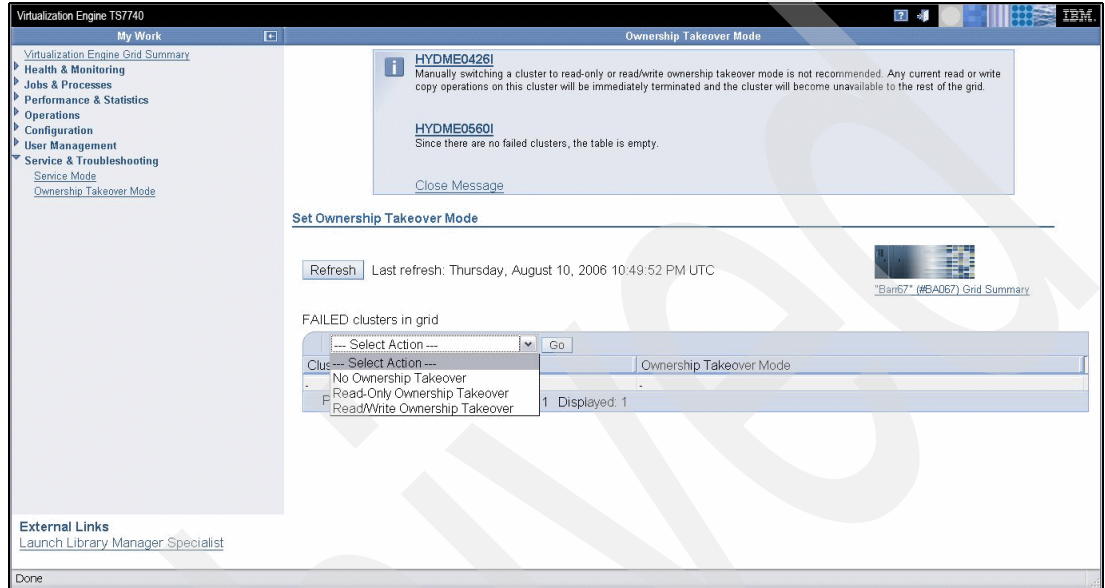

Figure 7-52 TS7700 MI Ownership Select Action
- ▶ **Ownership Takeover Mode** (Figure 7-52 on page 366):